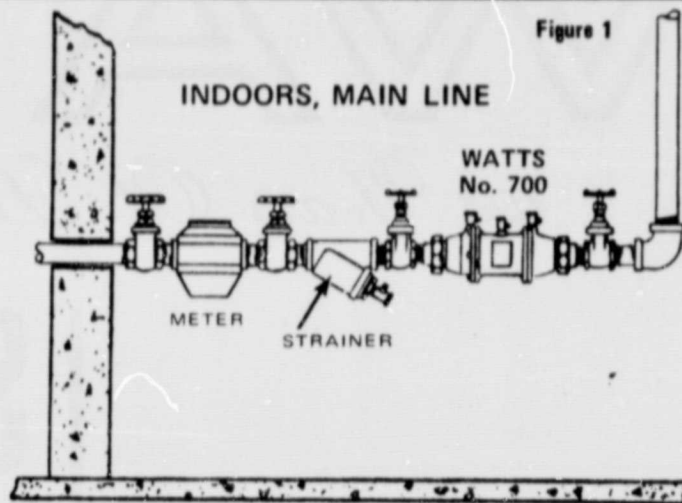

Figure 2
F. In an area where freezing conditions do not occur, Series 700 can be installed outside of a building. The most satisfactory installation is above ground and should be installed in this manner whenever possible. Fig. 2.